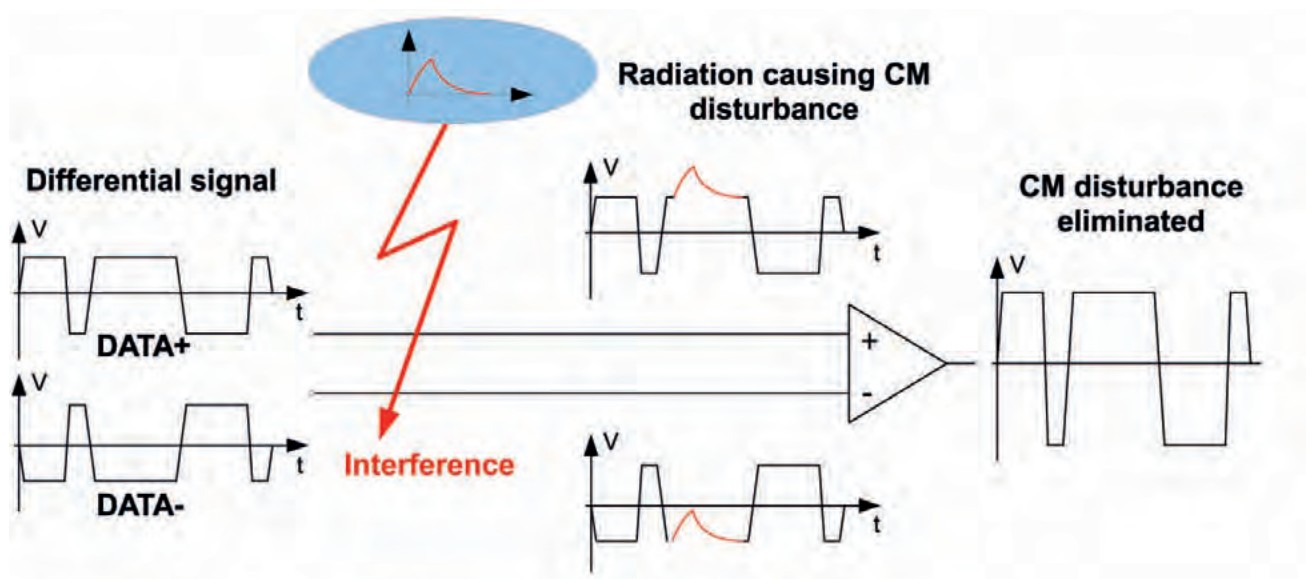

Figure 1: Differential signal transmission
A symmetrical conductor structure with two signal conductors can be operated in a so-called common mode or differential mode (DM), refer to Figure 1. Common mode (CM) stands for a common phase (and amplitude) of the signal fed to the two conductors. In differential mode, the signals have a phase shift of  $180^\circ$ , therefore they are in phase opposition.